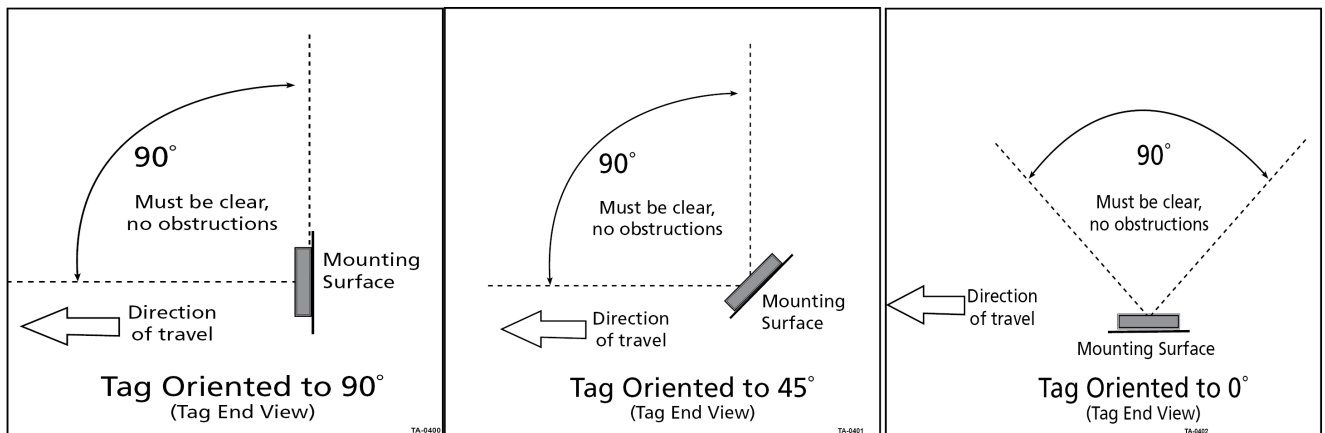

Figure 2 Correct Exterior Tag Placement
1. The front of the tag should be pointed toward the front of the vehicle. Position the tag so that no part of the vehicle hangs over the tag. The tag should have a minimum field-of-view of 90 degrees. Refer to Figure 2 for correct tag placement.